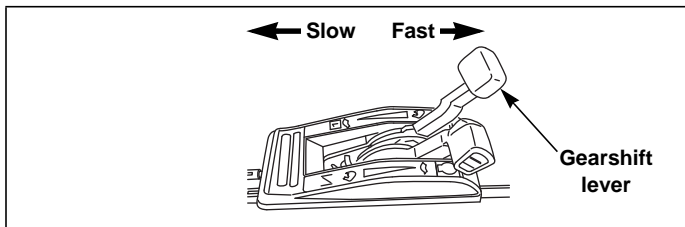

Fig. 4-28
- Adjust the mowing speed with the gearshift lever. Fig. 4-28